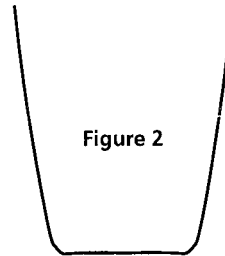

Figure 2
- CAREFULLY cut the molded on instrument panel coaming from the Trumpeter kit. The lateral cut (bottom of the "U" in the template) starts 1/16" away from the rear edge of the Trumpeter windscreen base. Use the template in Figure 2 as your guide for how much material to remove. BE SURE TO UNDERCUT, THEN GRADUALLY TRIM AWAY MATERIAL TO ENSURE AN EXACT FIT! The resin coaming part should exactly slide into the opening you cut after the fuselage halves are joined. Bevel the underside of the edge around the cut.